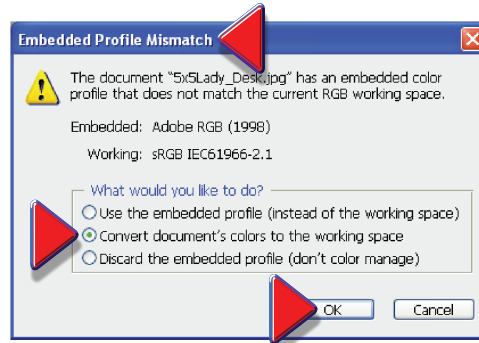

Figure 3
2. When you open or import an image into **Photoshop** for the first time, a pop-up window warns you of an **Embedded Profile Mismatch**, and asks you what action you want to take. **Accept** the default value, which is, **Convert document's colors to the working space**, and click **OK** (Fig 3).